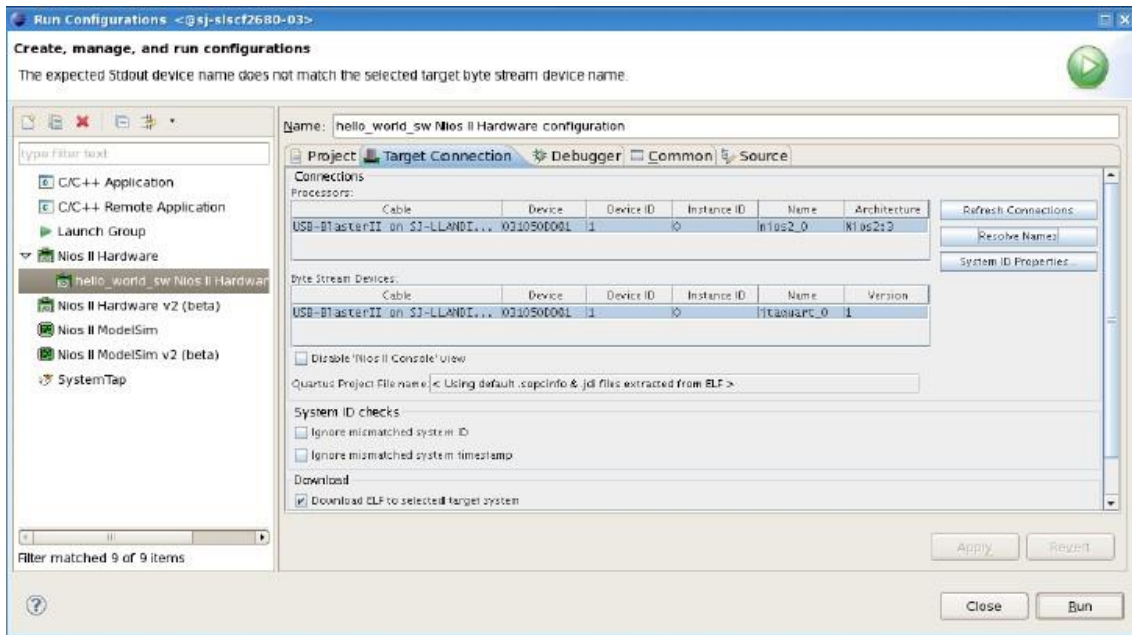

Figure 28: Eclipse SBT Tools after Connection is made to the USB-Blaster
- ❑ Once the connection is made to the USB-Blaster, you should observe something like Figure 28.